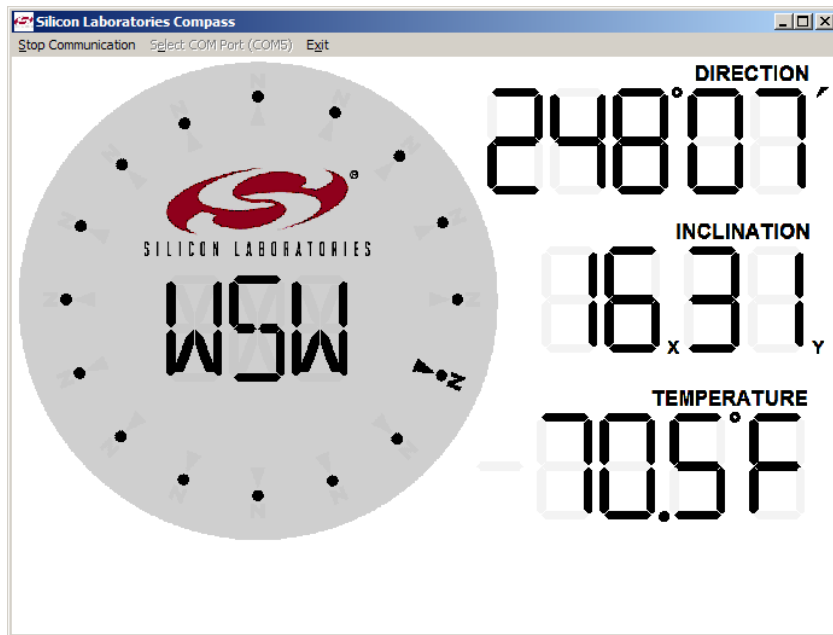

Figure 14. Compass Software Display
- Press the "Start Communication" button in the Compass application. If the connection is successful, the application will begin displaying the Direction, Inclination and Temperature calculated by the compass board. The display is shown in Figure 14.